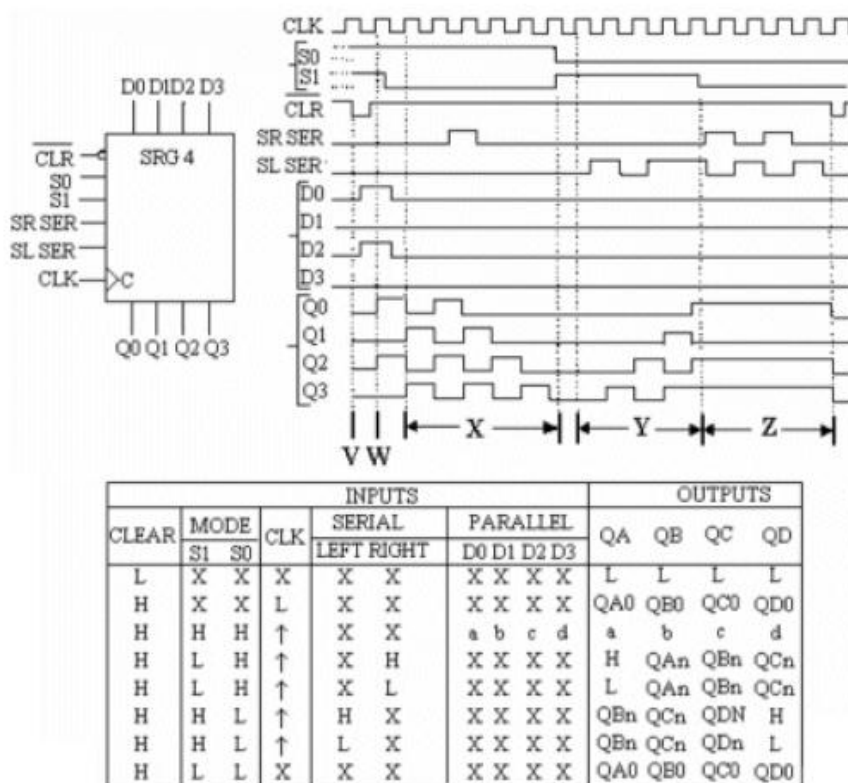

Fig. 1-10
10) What type of device is shown in Fig.1-10? _____